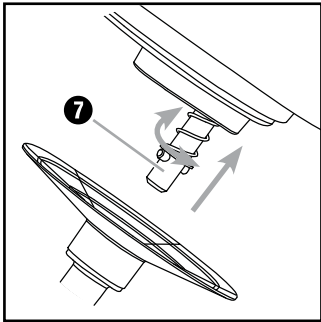

Fig. 1: Fitting the attachments
- 4) Depending on what you want to do, attach the kneading hook **10**, whisk **11** or beater **12** to the drive shaft **7** (Fig. 1):